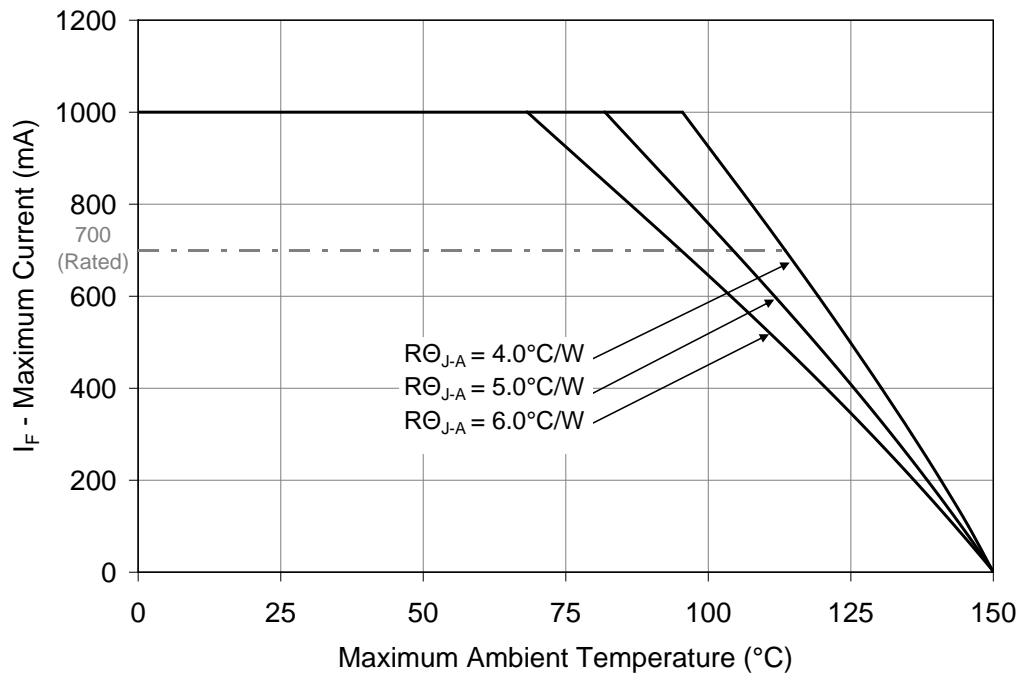

Figure 11: Maximum forward current vs. ambient temperature based on  $T_{J(MAX)} = 150^{\circ}C$ .
- Maximum DC forward current is determined by the overall thermal resistance and ambient temperature. Follow the curves in Figure 11 for current derating.
### Notes for Figure 11: